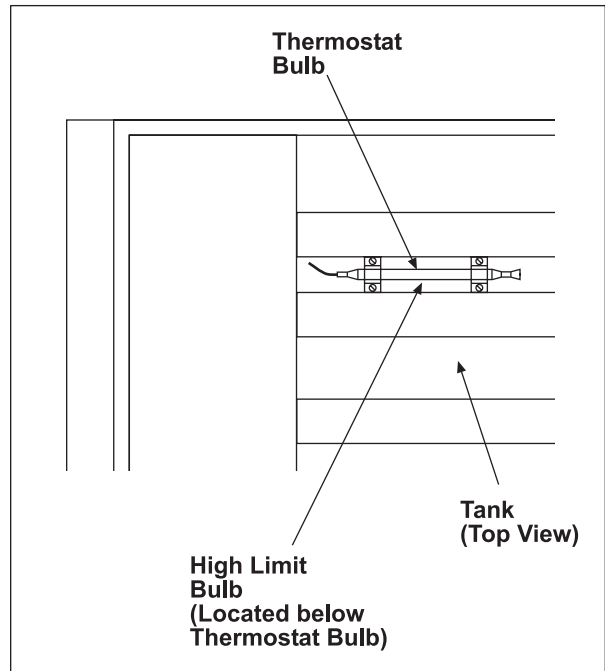

Figure 8
- Remove the thermostat bulb from the clamp (Figure 8).